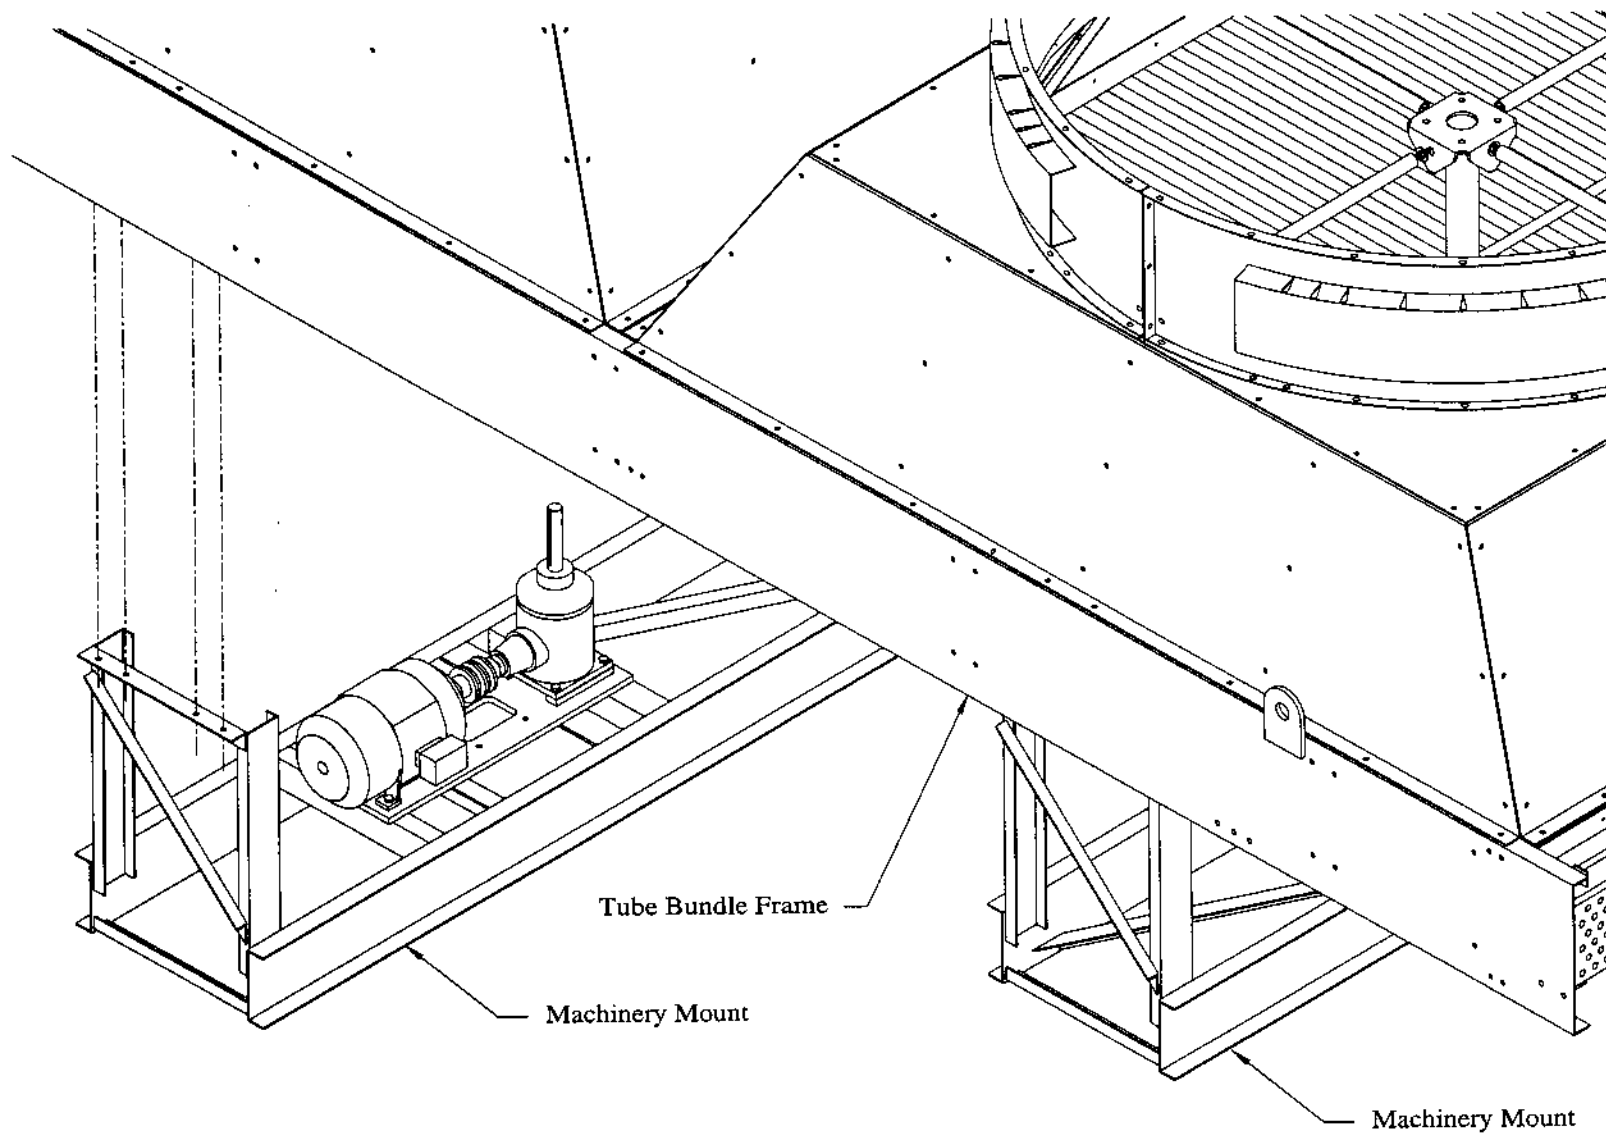

FIG. C3 - MACHINERY MOUNT
4. Attach machinery mount to tube bundle frame(s). See Fig. C3.